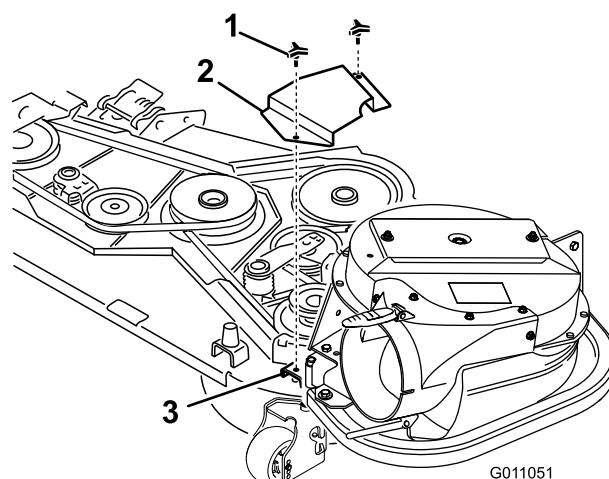

Figure 29
2. Install the new belt cover so the notches on both sides go over the belt cover supports and secure the latch (Figure 29).